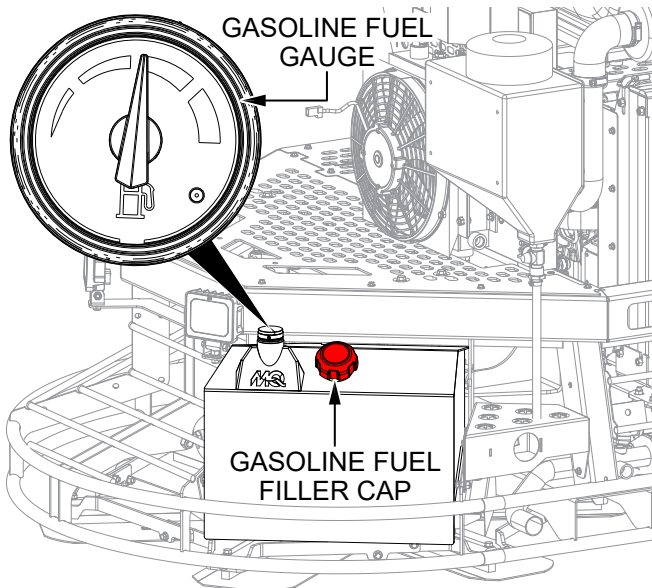

Figure 19. Gasoline Level Inspection
2. Read the **gasoline fuel gauge** (Figure 19) on the **fuel tank** to determine if the gasoline level is low.
3. If fuel is low, remove the **gasoline fuel filler cap** (Figure 19) and fill the tank with clean, fresh, unleaded or E10 gasoline. **DO NOT** overfill. The fuel tank holds 9 gallons (34 liters) of gasoline.